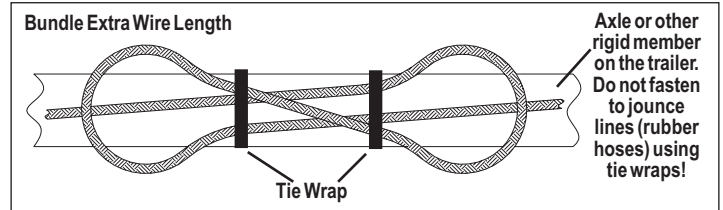

FIGURE 3 - BUNDLING EXTRA WIRE LENGTH
7. Where the harness length is more than needed, reroute harness, or tie extra harness as shown in Figure 3.